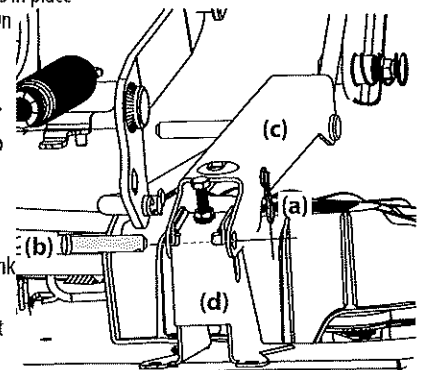

Figure 45
- a. Remove the two bow-tie pins (a) from the devis pins (b) that secure the lift link brackets (c) to the rear deck lift brackets (d) on the deck. Remove the devis pins (b). See Figure 45.